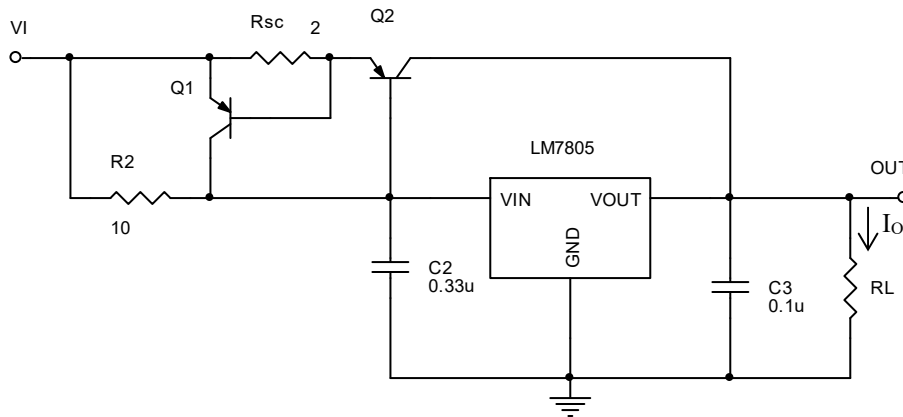

Fig. 5. Voltage regulator with external transistor and protection circuit
- Build the experimental scheme in Fig.5. by applying $V_I=8V$ at the VI point and connecting a load resistance $R_L=47\Omega$. To do this, disconnect $J1$ from $J2$ and connect $J5$ to $J6$, $J7$ to $J8$, $J9$ to $J10$, $J11$ to $J12$ and $J14$ to $J15$.